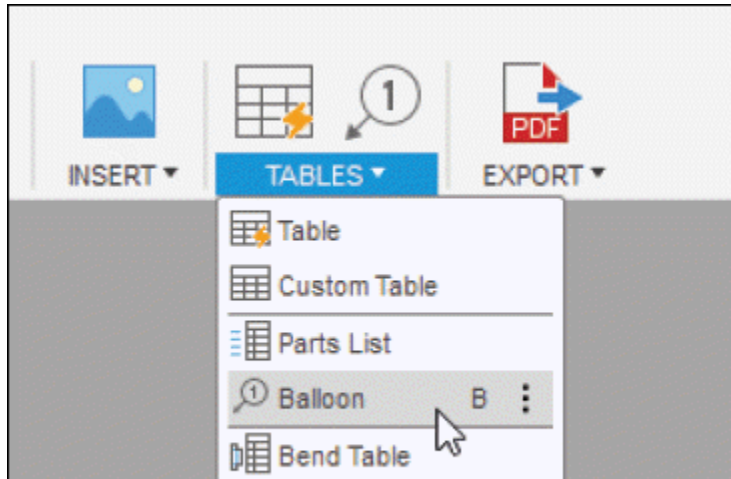
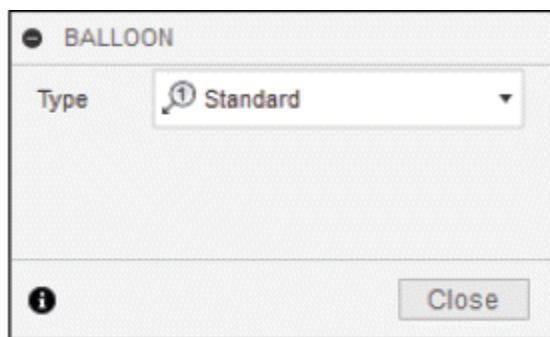

Figure-111. Balloon tool
Figure-112. BALLOON dialog box
- Click on the **Balloon** tool from **TABLES** drop-down; refer to Figure-111. The **BALLOON** dialog box will be displayed; refer to Figure-112 and you will be asked to select the component.